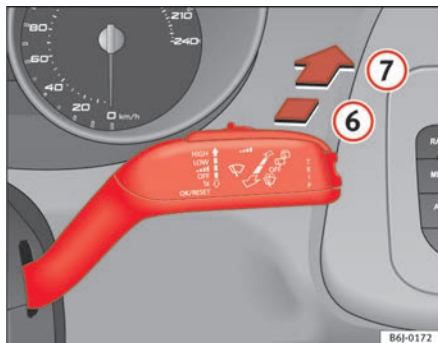

Fig. 63 Windscreen wiper and windscreen wash lever: rear window wiper
- Press the lever forwards to position 6 ⇒ fig. 63. The wiper will wipe the window approximately every 6 seconds.
- Press the lever fully forwards to position 7 ⇒ fig. 63. The rear wiper and washer operate at the same time. The windscreen wash system will function as long as you hold the lever in this position.